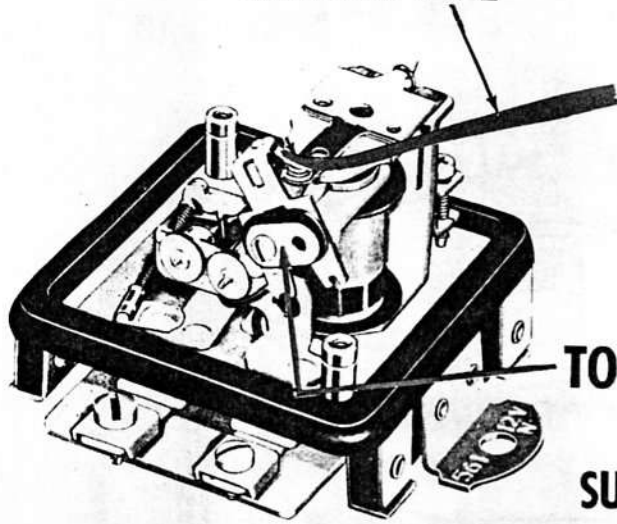

Figure 40
1. If an open transistor was found in the previous check, the large voltage regulator contact must be cleaned with a spoon or riffer file as illustrated in Figure 40.